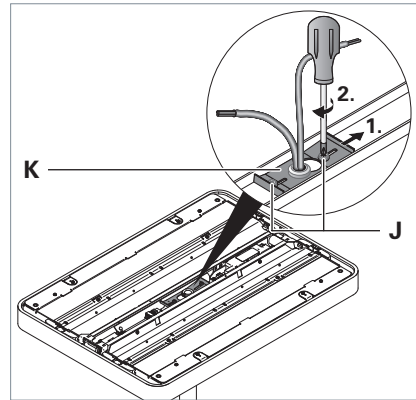

Fig. 9: Fastening the light head.
- Unscrew both screws **J** on the retaining strap **K**, see Fig. 9.